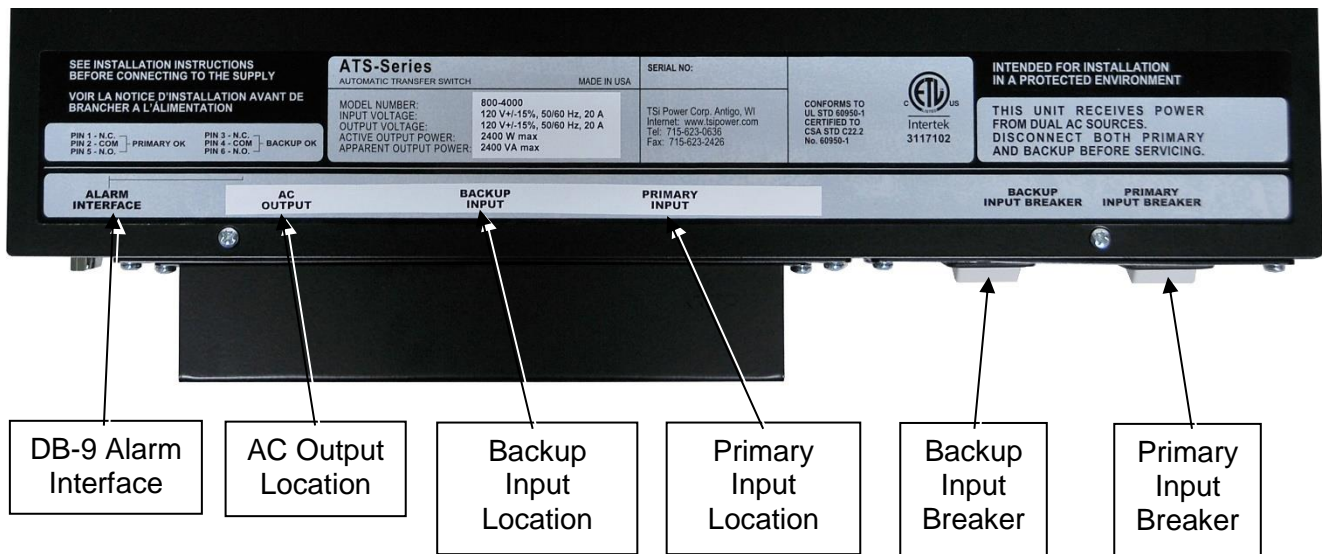

Figure 4: ATS-800-4000 Hardwire top-cover label showing rear compartments/components
The ATS-800 receives power from two AC sources. To prevent any hazardous situations from occurring, always turn off both circuit breakers in the rear of the ATS unit (see Fig. 4 and 5), as well as the upstream circuit breakers protecting both AC input sources to the ATS unit before connecting or disconnecting the AC input and output wires to the input and output terminal blocks or connecting the plug cables from the rear of the ATS unit.
1.6 REAR ACCESS – See Figures 4, 5, 6, 7 AND 8
1.61 TOP-DOWN VIEW OF COVER SHOWING MAIN IDENTIFICATION LABEL AND REAR COMPONENT LOCATIONS (for ATS-800-4000 hardwire unit) – See Figure 4.